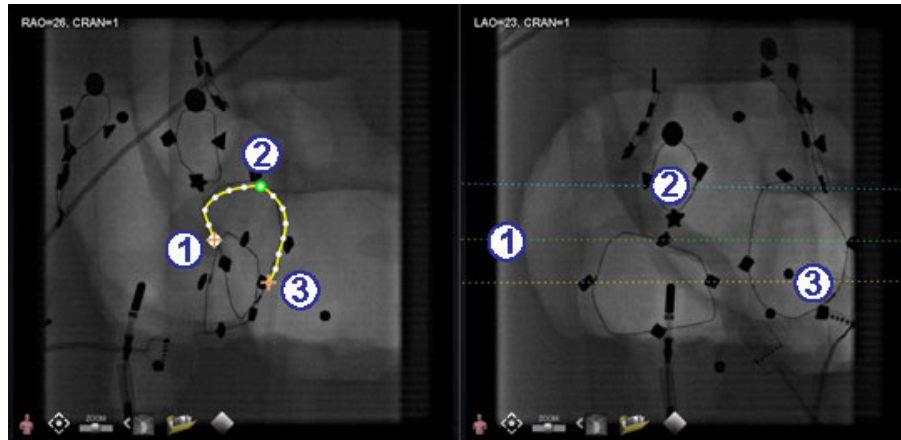

Figure 125. Proximal, selected, and distal points
- ① The green dotted line indicates the epipolar line of the proximal point. In Figure 125, the proximal anchor point has a solid circle behind the orange cross.
- ② The yellow dotted line indicates the epipolar line of the distal point.
In the image below (Figure 125), the proximal anchor point (1), selected point (2), and (3) distal anchor point are all shown. To cancel the selection, click elsewhere on the image.